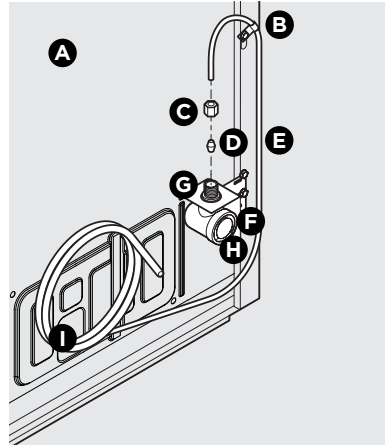
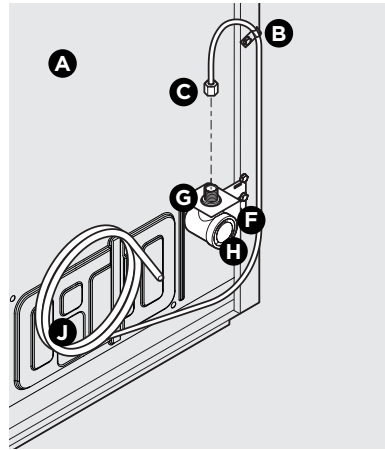

Figure 1
Figure 2
4. If you use **copper tubing** - Slide the brass compression nut and then the ferrule (sleeve) onto the water supply line. Push the water supply line into the water valve inlet as far as it will go ($\frac{1}{4}$ "/6,4 mm). Slide the ferrule (sleeve) into the valve inlet and finger tighten the compression nut onto the valve. Tighten another half turn with a wrench; DO NOT overtighten. See Figure 1.
If you use **braided flexible stainless steel tubing** - The nut is already assembled on the tubing. Slide the nut onto the valve inlet and finger tighten the nut onto valve. Tighten another half turn with a wrench; DO NOT overtighten. See Figure 2.
B	Steel Clamp (Fig. 1: $\frac{1}{4}$ "; Fig. 2: $\frac{1}{2}$ ")